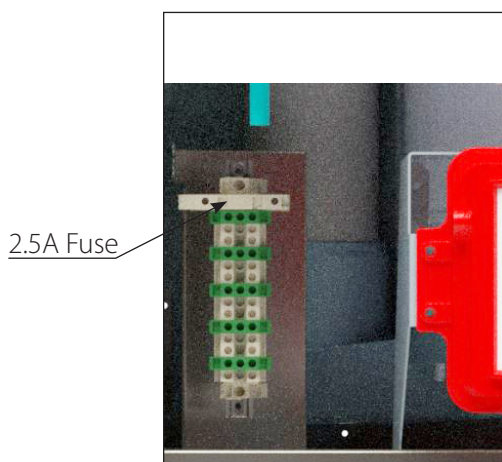

Fig. 32 - Terminal Strip Location
- A 2.5A fuse is also located on the terminal strip, to protect the output. Refer to *Fig. 32 on page 48*.
The low voltage terminals are located at the bottom of the CTRLMax control module. The line voltage terminals are located in the lower left corner as shown in Fig. 32 below.
1. Connect a dedicated 120 VAC/15A service to the line voltage terminals located internally in the lower left corner, as shown in *Fig. 32 below*.
2. Connect the CH circulator wiring to the line voltage terminals located internally in the lower left corner, as shown in *Fig. 32 on the left*. This circulator is typically used to supply heat to the central/space heating loop.
3. Connect the DHW circulator wiring to the line voltage terminals located internally in the lower left corner, as shown in *Fig. 32 on the left*. This circulator is typically used to supply heat to an indirect hot water heater.
4. Connect the system pump wiring to the line voltage terminals located internally in the lower left corner, as shown in *Fig. 32 on the left*.